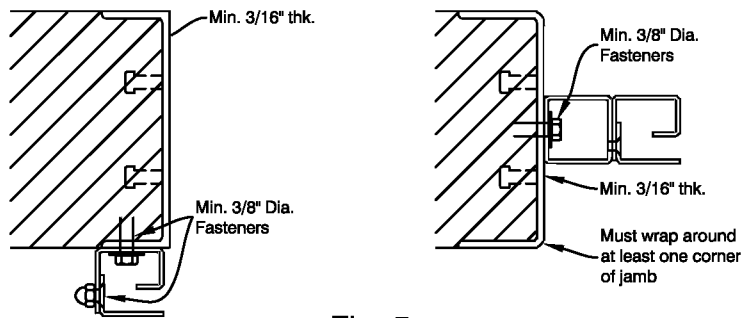

Fig. 5
b. When fastening to a steel frame, drill and tap holes for the appropriate fastener size. Fasten as shown in Fig. 5 with a min. of 3/8" dia. fasteners. Note: Steel frame member must be embedded or secured to the masonry wall prior to the wall / guide assembly to them.